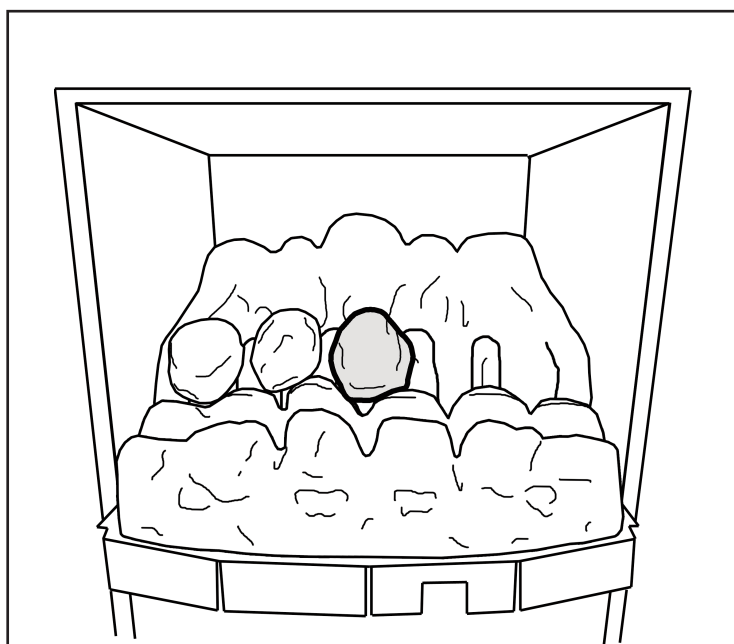

Figure 5. Second row "Coal C"
6. Hold coal 'C' upright with the arrow pointing to the top. Locate coal 'C' as shown in figure 5.